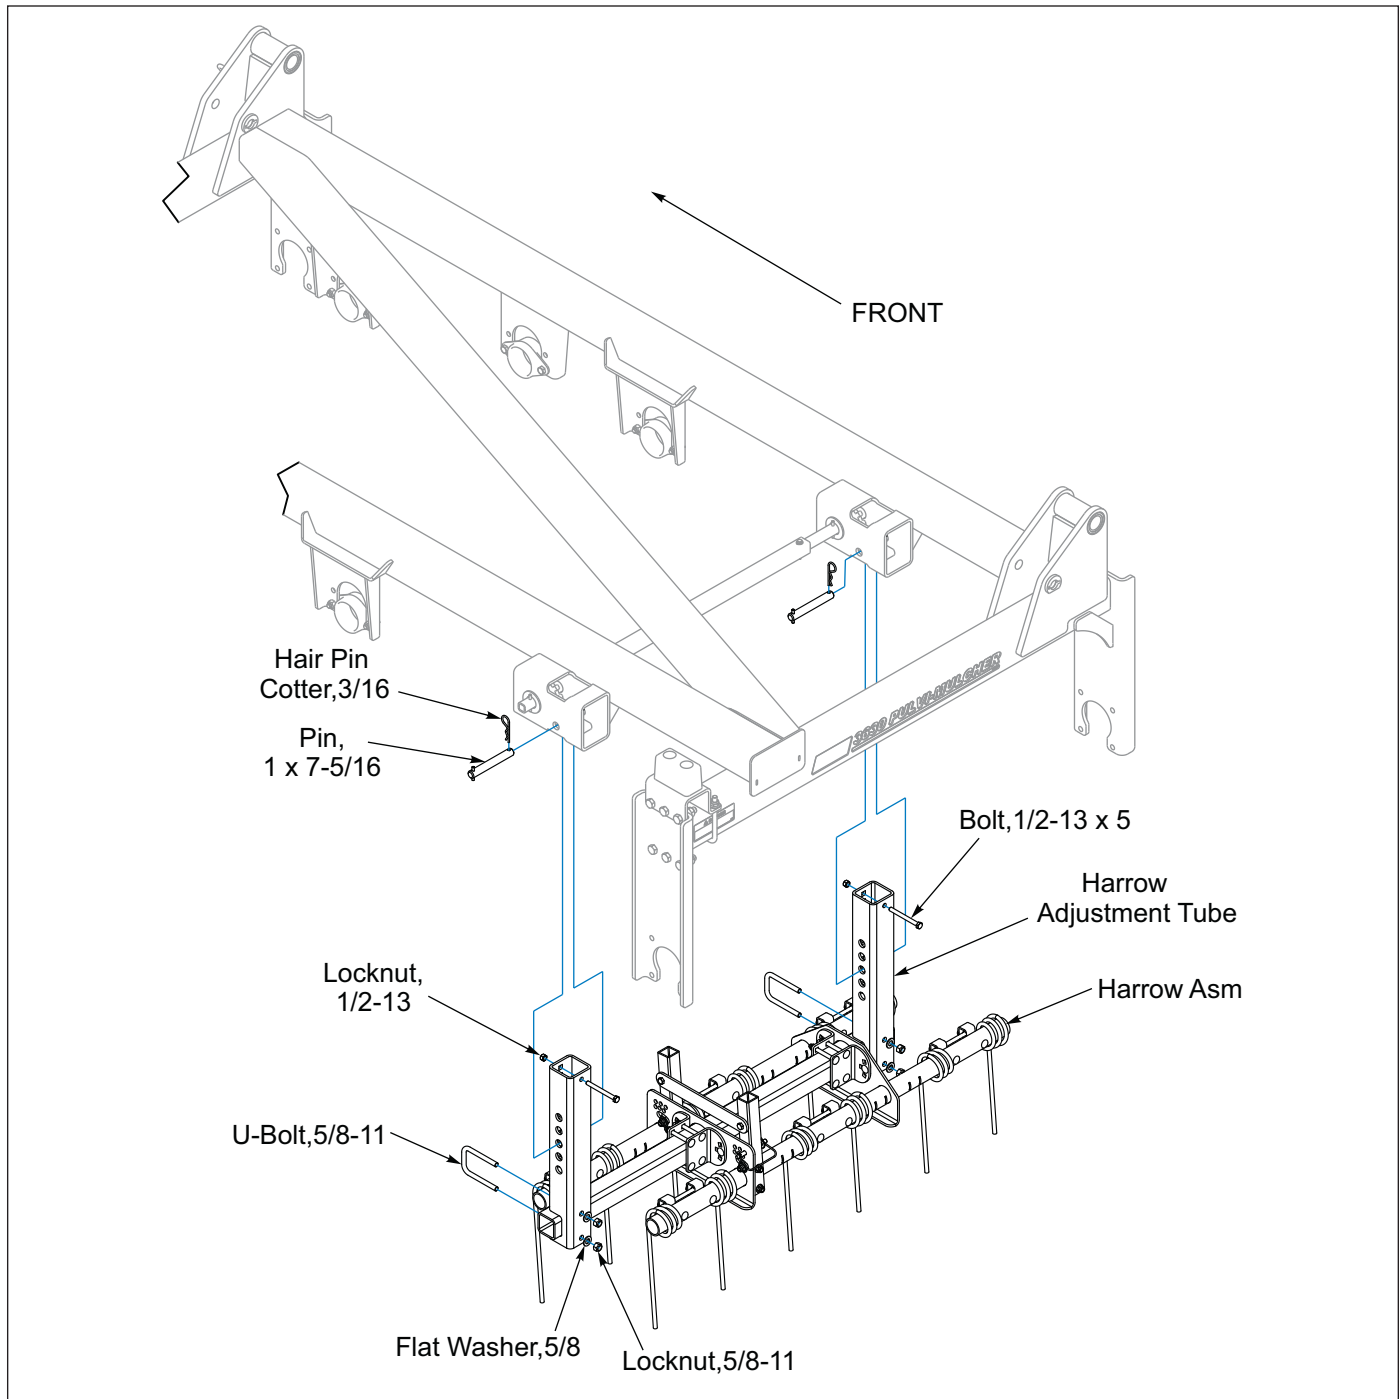

Figure 2-60: Left Hand Wing Harrow
1. Remove 1 x 7-5/16 Pins from each Wing Frame Adjuster Mount. Insert a Harrow Adjustment Tube into each Wing Frame Adjuster Mount and re-insert 1 x 7-5/16 Pin in the bottom hole. Secure with 3/16 Hair Pin Cotter. See Figures 2-60 and 2-61.